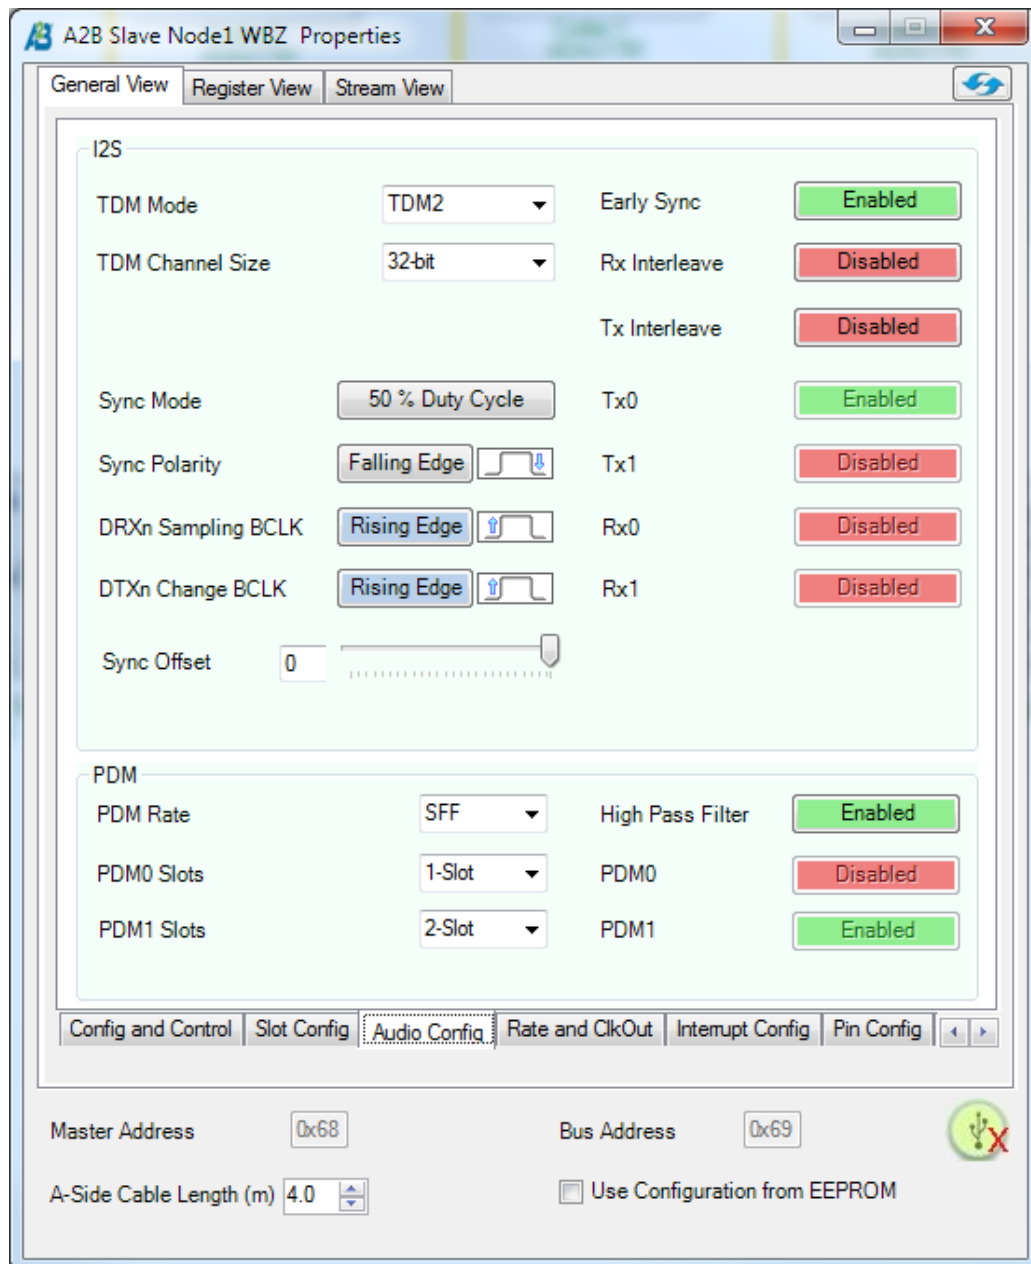

Figure 18: Device properties window
8. Enter properties for each A2B node by right clicking and selecting the Device properties option. This will open a window as shown in Figure 18.
12. Optionally, if the configuration properties for the node and its attached peripherals is to be set by reading from a storage device (EEPROM), user shall set 'Use Configuration from EEPROM' option shown in Figure 18.